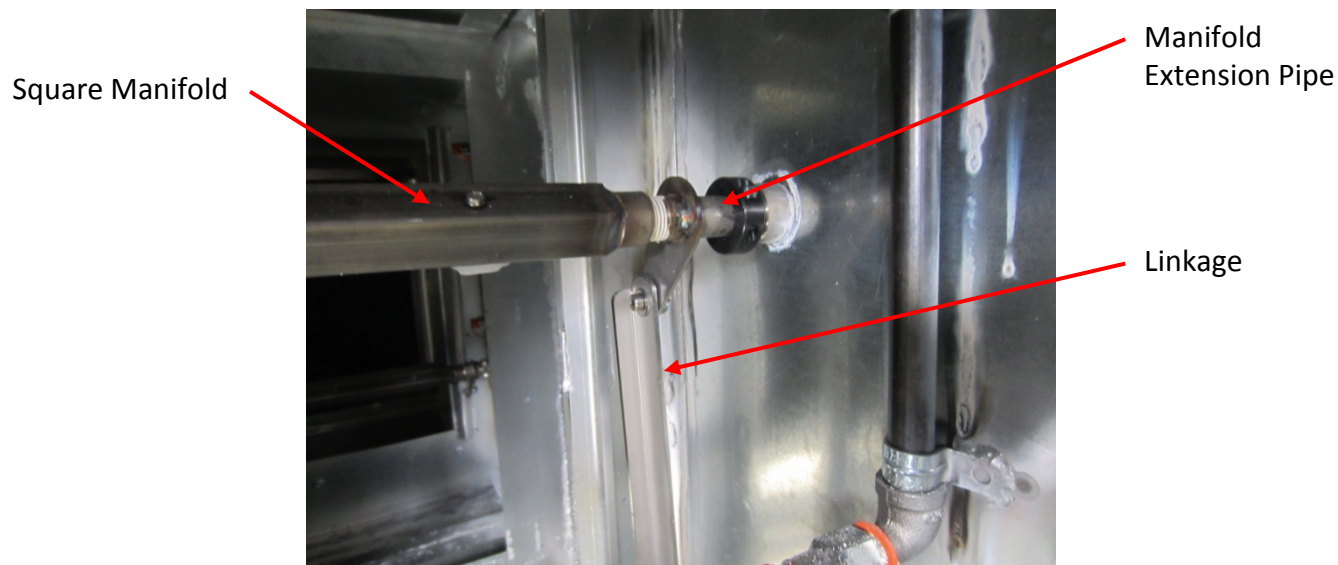

Figure 4-36-1
To remove Inner Cell nozzles the wash manifolds must be removed. The top manifold, the manifold that goes through the Oscillating Motor is called the Motor Manifold and the remaining are called Standard Manifolds (Refer to Figure 4-36-1 and 4-36-2). To remove both types proceed as follows:
1. Remove the linkage arm that connects all the manifolds together (Refer to Figure 4-36-1).
2. Place a pipe wrench on the manifold extension pipe and another on the square manifold and unscrew the manifold (Refer to Figure 4-36-1).